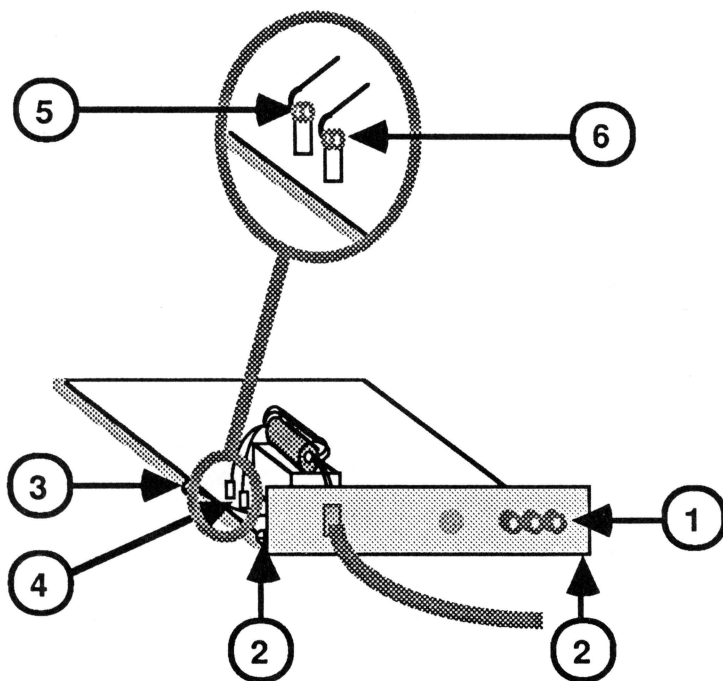

FIGURE 46
2. Fit the Rev. B rear panel over the rear control knobs of the Rev. A logic board (Figure 46, #1), making sure the plastic "teeth" on the bottom of the panel fit into the openings in the metal chassis.
3. Replace the two screws that secure the back panel to the logic board chassis (Figure 46, #2).
4. Replace the screw that secures the power supply's green ground wire to the side of the metal chassis (Figure 46, #3). (You do not need to replace the nut you removed from the Rev. B ground connection.)
5. Solder the two power cable wires of the Rev. B power cord to the crimp connectors (Figure 46, #4) on the Rev. A logic board module, using the following procedure:
- b. Thread the stripped end of the white power wire through the hole in the forward crimp connector (Figure 46, #5) so that the end of the wire protrudes from the hole about 1/4 inch.
- f. Using the same technique described in steps a through e, solder the black wire to the rear crimp connector (Figure 46, #6).